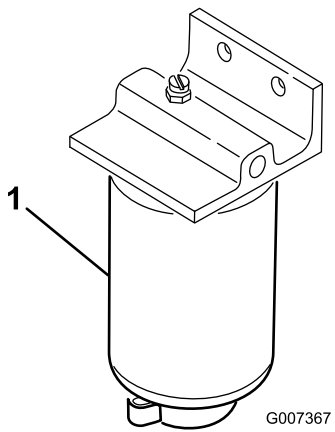

Figure 64
1. Place a clean container under the fuel filter (Figure 64).